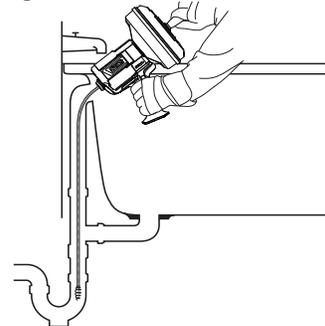

Figure 5
- Bathtub overflow: Remove overflow plate and internal mechanism (Figure 5).